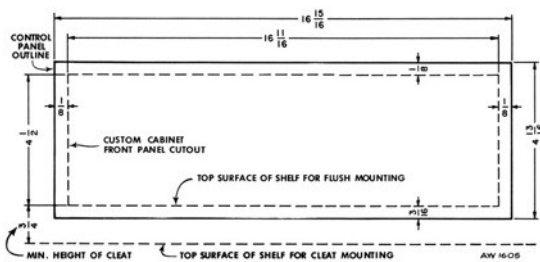

FIGURE 7. Front Panel cutout
- 3—Saw a cutout through the front panel of your cabinet as shown in Figure 7. The bottom edge of the cutout should be on a level with the top of the two cleats.
3—Saw a rectangular cutout through the front panel of the cabinet as shown in Figure 7. Note that the bottom edge of the cutout is flush with the top of the mounting board.